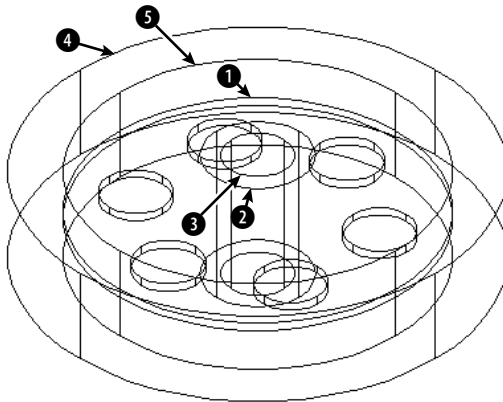

**Figure 24-22:** These solids are the basis for the model.
2. Save the file as `ab24-06.dwg` in your AutoCAD Bible folder. Make sure that OSNAP is on. Set running object snaps for endpoint, midpoint, and center. This drawing is measured in millimeters. The solids have been created by drawing circles, using EXTRUDE, and moving the solids to the proper Z coordinate. The result is shown in Figure 24-22.
Select objects: *Select the central plate at ① in Figure 24-22.*